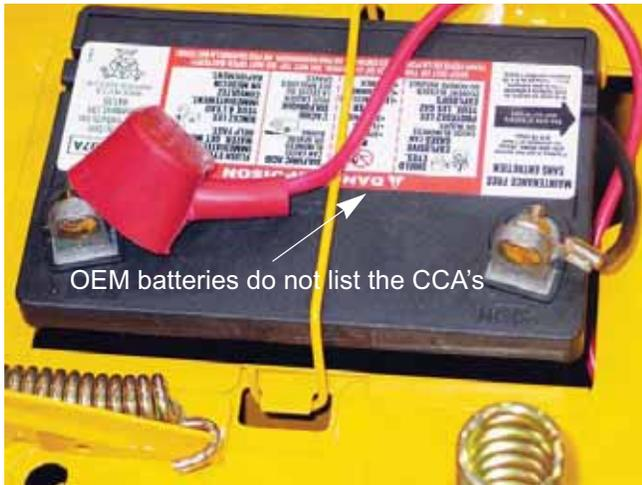

Figure 7.34
**NOTE:** CCA stands for cold cranking amps. The rating should be on the battery for aftermarket batteries. For OEM batteries, contact the manufacturer for the CCA rating. Most riding mower batteries are 200-275 CCA. See Figure 7.34.